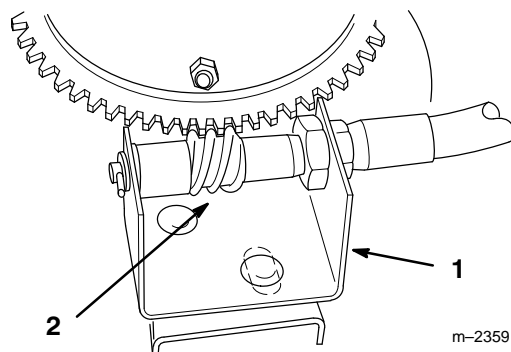

Figure 7
1. Loosen the worm bracket mounting screws (Fig. 7), firmly pushing the worm gear against the teeth in the retaining ring.